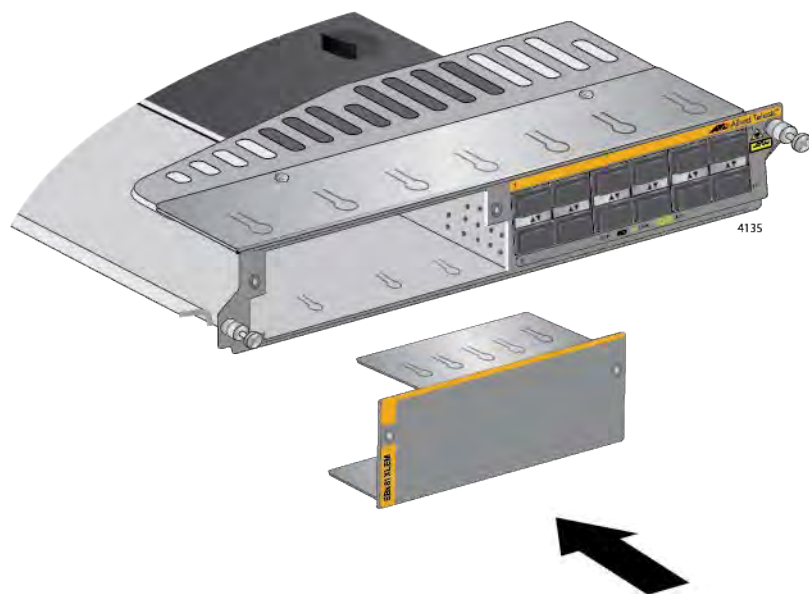

Figure 180. Sliding the Blank Slot Cover into the AT-SBx81XLEM Line Card
9. Slide the blank slot cover that comes with the line card into the slot on the card. Refer to Figure 180 on page 284.